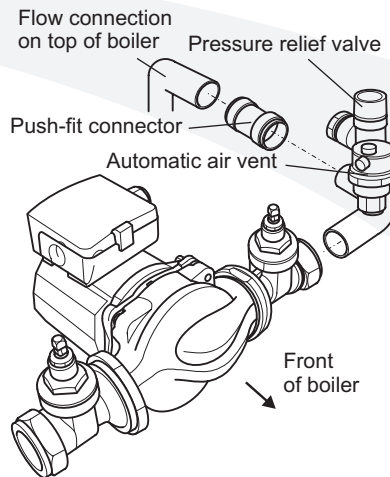

Figure 7-6: 26/36, 36/46 pump assembly
See Figure 7-6
12. Fit the pressure relief valve and automatic air vent onto the manifold pipe, then push the manifold pipe end into the 28 mm push-fit elbow on the flow pipe. Refer to Figure 7-6.